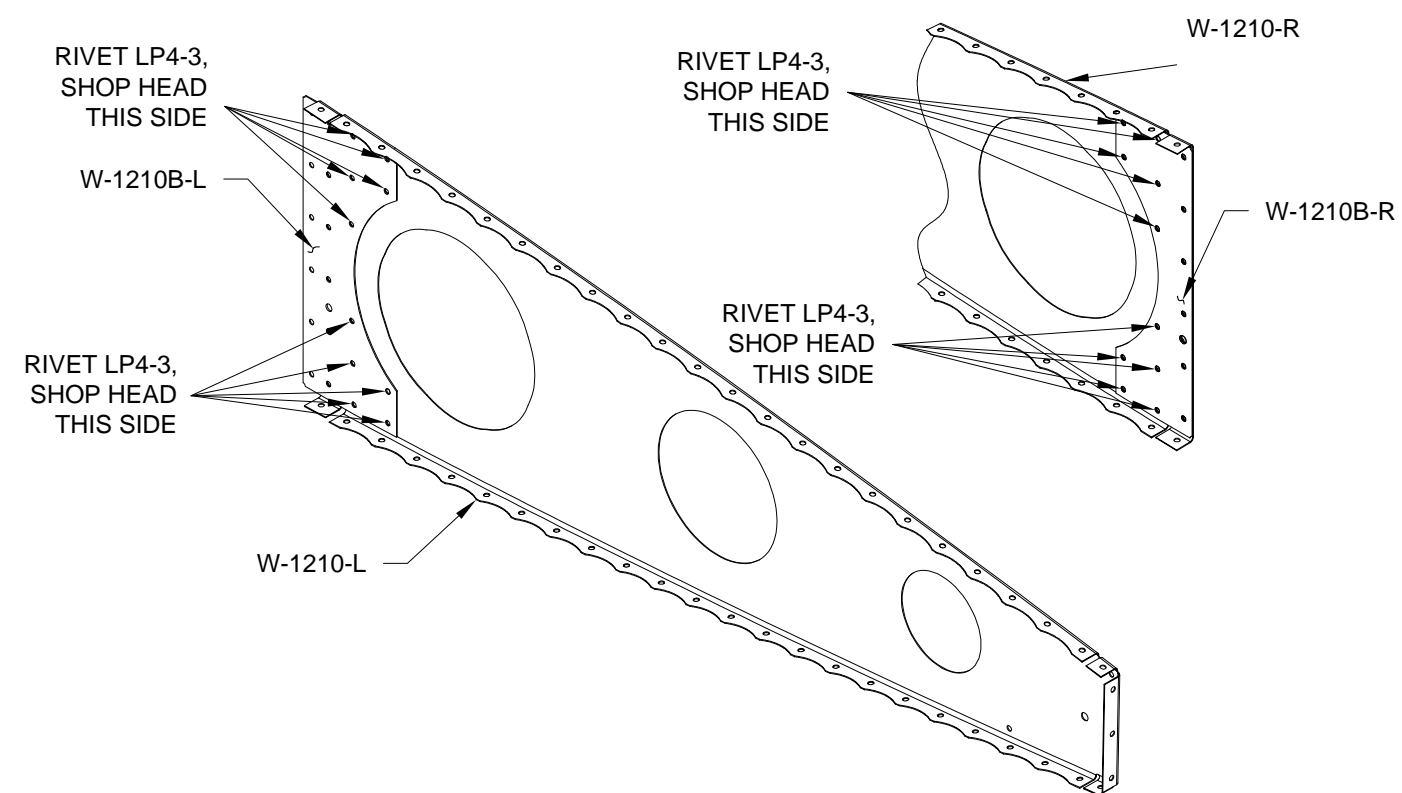

FIGURE 4: RIVETING THE RIB DOUBLERS TO THE MAIN RIBS
Step 8: Rivet the W-1210B-L Rib Doubler to the match-drilled W-1210-L Main Rib as shown in Figure 4.
Step 9: Rivet the W-1210B-R Rib Doubler to the match-drilled W-1210-R Main Rib as shown in Figure 4.